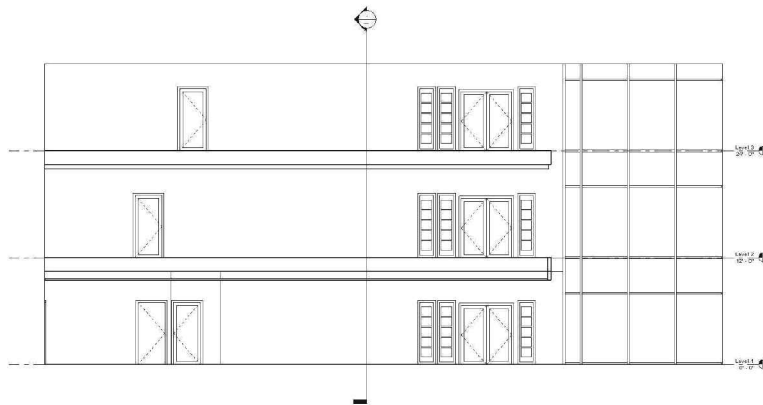

FIGURE 10-2.3 East Atrium view
- Switch to the **East Atrium** view (Figure 10-2.3).